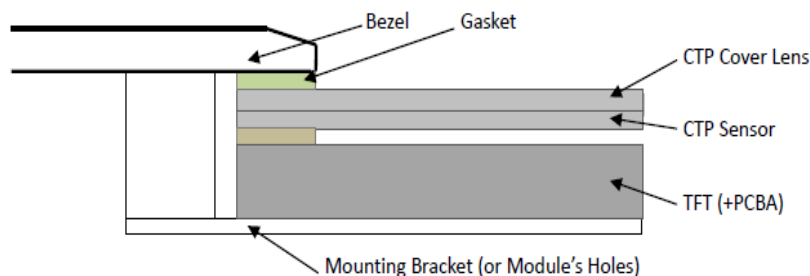

Figure 1
7.1 Bezel Mounting (Figure 1)
7.1 面框安装 (附图1)